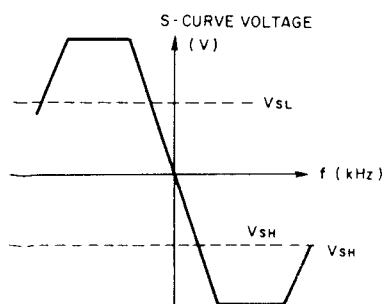

Fig. 4-5 S-Curve characteristics
• AFC Operation (Fig. 4-5)
If for some reason, the tuned frequency is displaced to the high side of the broadcasting frequency, the S-curve voltage will generate a minus potential. V_{SL} and V_{SH} represent the upper and lower threshold levels of the LC7207 comparator shown in Fig. 4-5. Once the minus potential drops below the V_{SH} threshold, an instruction from the control logic is passed to the 10-bit U/D counter (for rough tuning) and the 3-bit U/D counter (for fine tuning). This results in control of the variable capacitor, leading to change in the tuning voltage (V_T) in order to recover the precise tuning position. If, on the other hand, the frequency is displaced on the low side, the control logic circuit is again activated (but due to a positive potential exceeding the V_{SL} threshold) resulting in the retention of the precise tuning point.